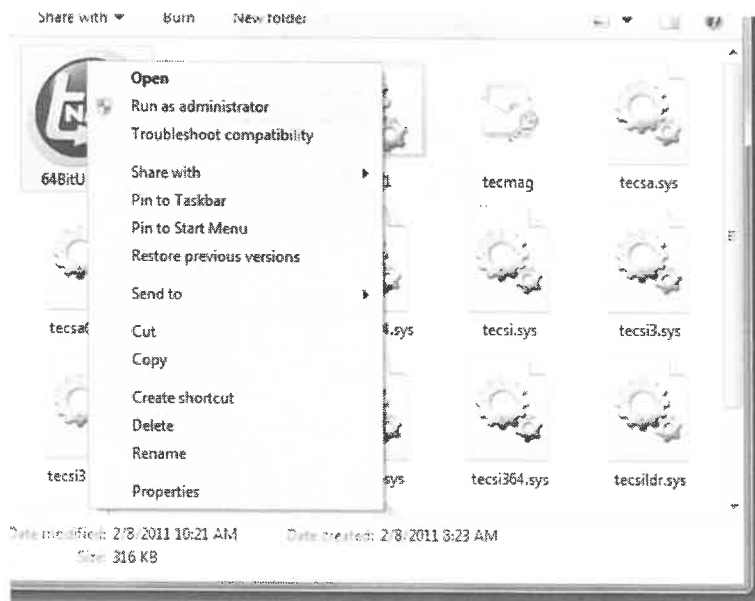

Figure 20
2. From the \TNMR\USBDrivers\64-bit folder, right click on 64bitUpgrade.exe and click Run as administrator. (See Figure 20)